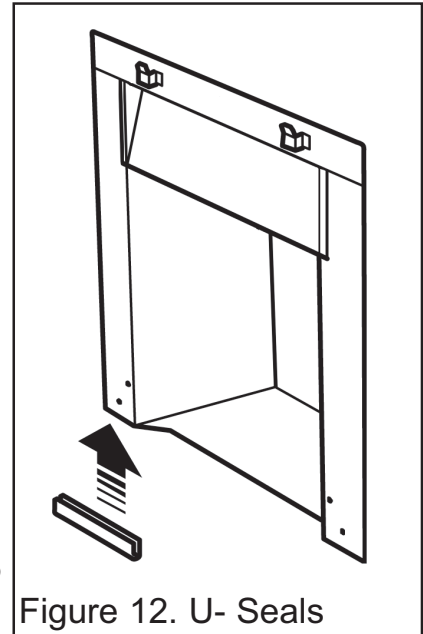

Figure 12. U- Seals
2. Fit the two “U” section seals to the bottom edges of the convection box side flanges (See figure 12).